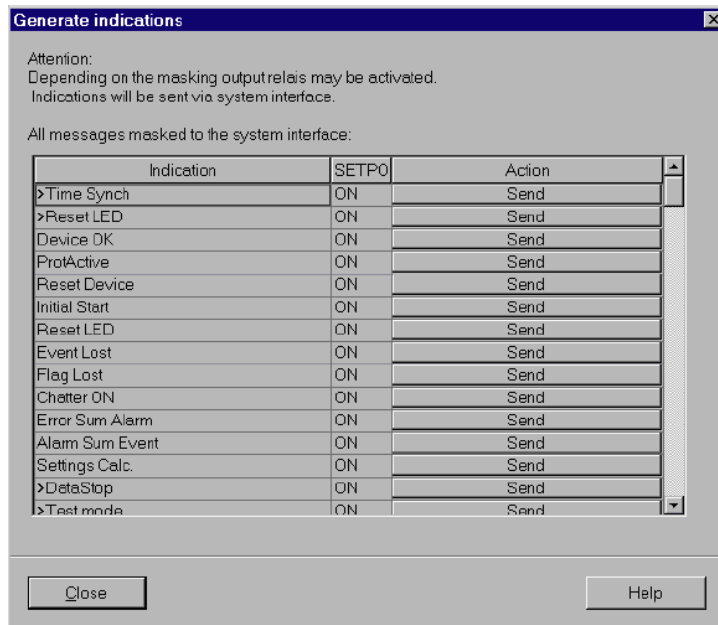

Figure 3-29 System interface test with dialog box: Generating indications – Example
- Double-click on **Testing Messages for System Interface** shown in the list view. The dialog box **Generate Indications** is opened (see Figure 3-29).